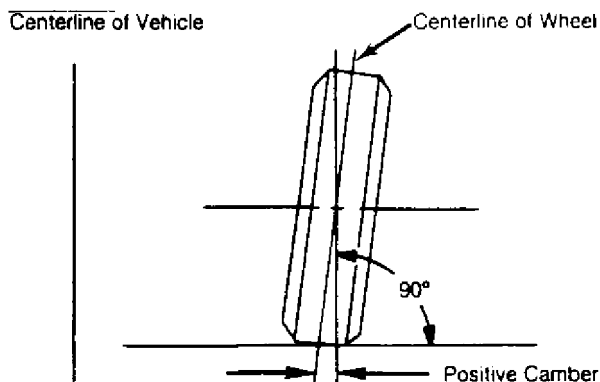

Fig. 3: Determining Camber Angle
1) Camber is the tilting of the wheel, outward at either top or bottom, as viewed from front of vehicle. See Fig. 3.